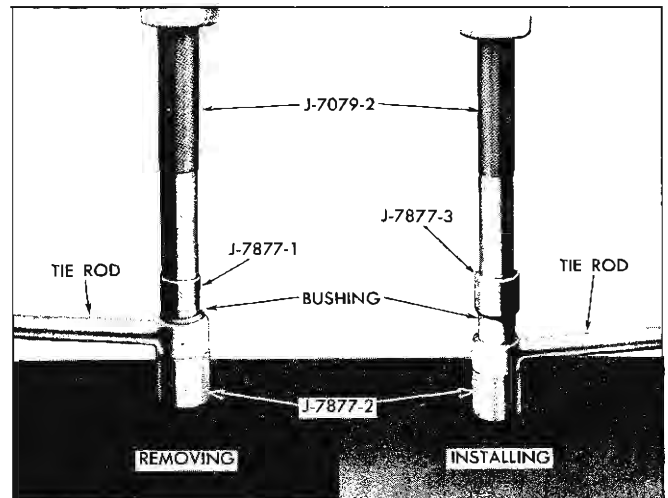

Fig. 35—Tie Rod Bushing Replacement
1. With tie rod bushing centered over Tool J-7877-2 and with tie rod supported horizontally, press or drive bushing from rod, using Tools J-7877-1 and J-7079-2 as shown in Figure 35.
2. With tie rod centered over Tool J-7877-2 and rod supported horizontally, press or drive bushing into arm using Tools J-7877-3 and J-7079-2 as shown in Figure 35. Tool J-7877-3 should bottom on tie rod when bushing is fully installed.